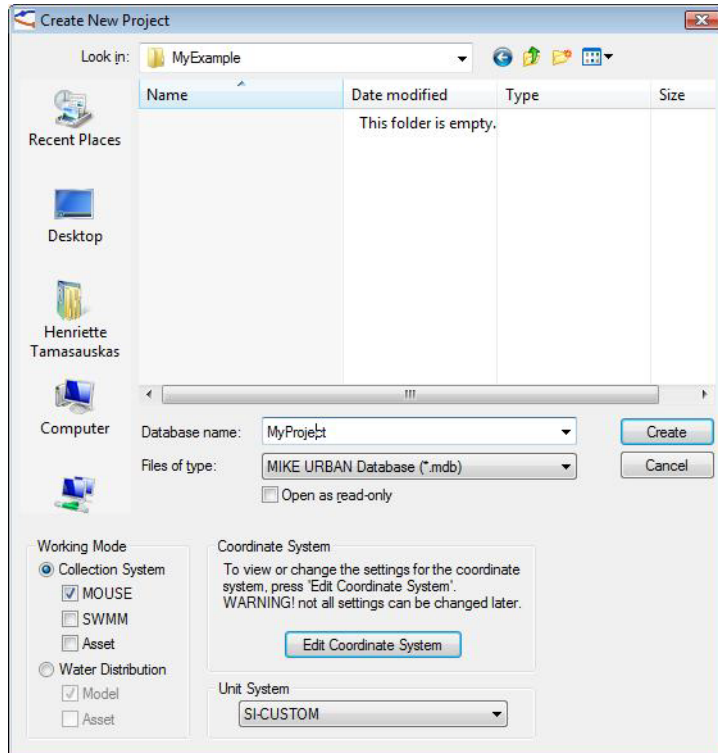

Figure 10.1 Creating a new collection system project
2. On the dialog that comes up, see Figure 10.1, choose location and name of your database
7. Go to File|New and in the dialog that comes up. Please refer to Figure 10.1.